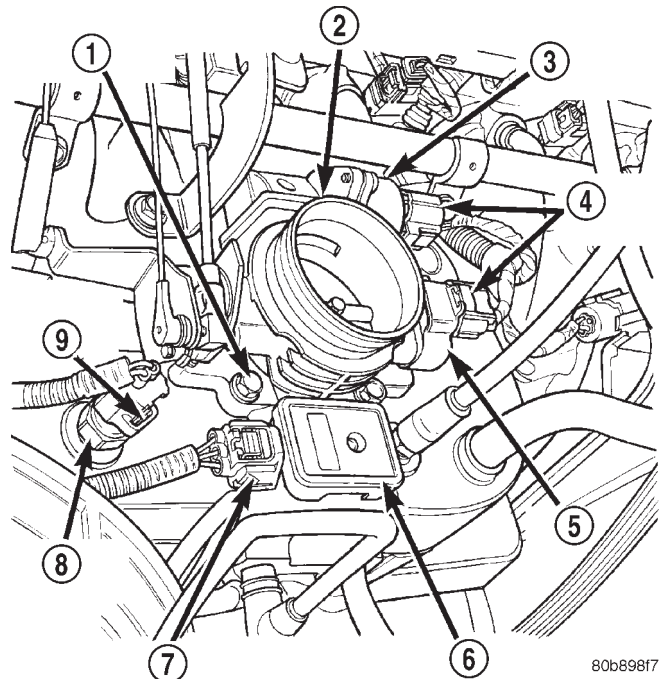
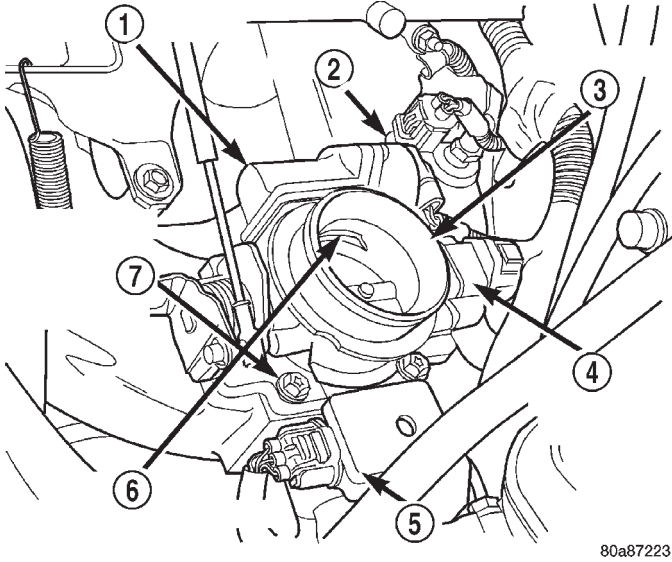
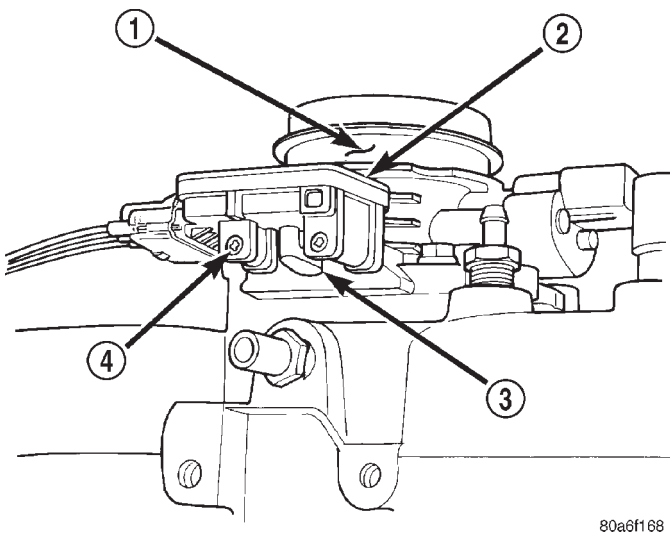

Fig. 24 Throttle Body and Sensor Locations—4.0L Engine
Fig. 25 Throttle Body and Sensor Locations—2.5L Engine
Fig. 29 MAP Sensor Mounting
- (1) Remove air cleaner tube at throttle body.
- (2) Disconnect throttle body electrical connectors at MAP sensor, IAC motor and TPS (Fig. 24) or (Fig. 25).
The TPS is mounted to the throttle body (Fig. 24) or (Fig. 25).
The IAC motor is located on the side of the throttle body (Fig. 24) or (Fig. 25).
The MAP sensor is mounted to the side of the throttle body (Fig. 24) or (Fig. 25). An L-shaped rubber fitting is used to connect the MAP sensor to throttle body (Fig. 29).
- (1) Remove air cleaner intake tube at throttle body.
- (2) Remove two MAP sensor mounting bolts (screws) (Fig. 29).
(3) While removing MAP sensor, slide the rubber L-shaped fitting (Fig. 29) from throttle body.
(4) Remove rubber L-shaped fitting from MAP sensor.